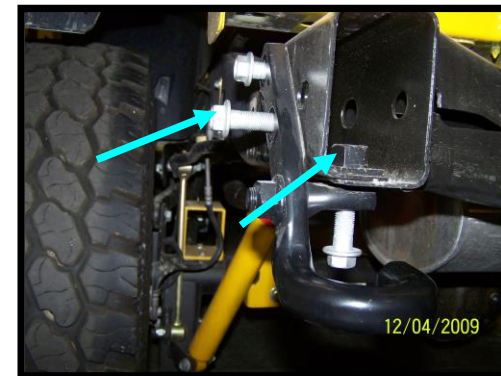

Figure 3
Step 4 – If you have a stock tow hook Attachment you will need to remove that as well. Using the 18mm socket remove the three bolts that attach the tow hook. (See Figure 3)